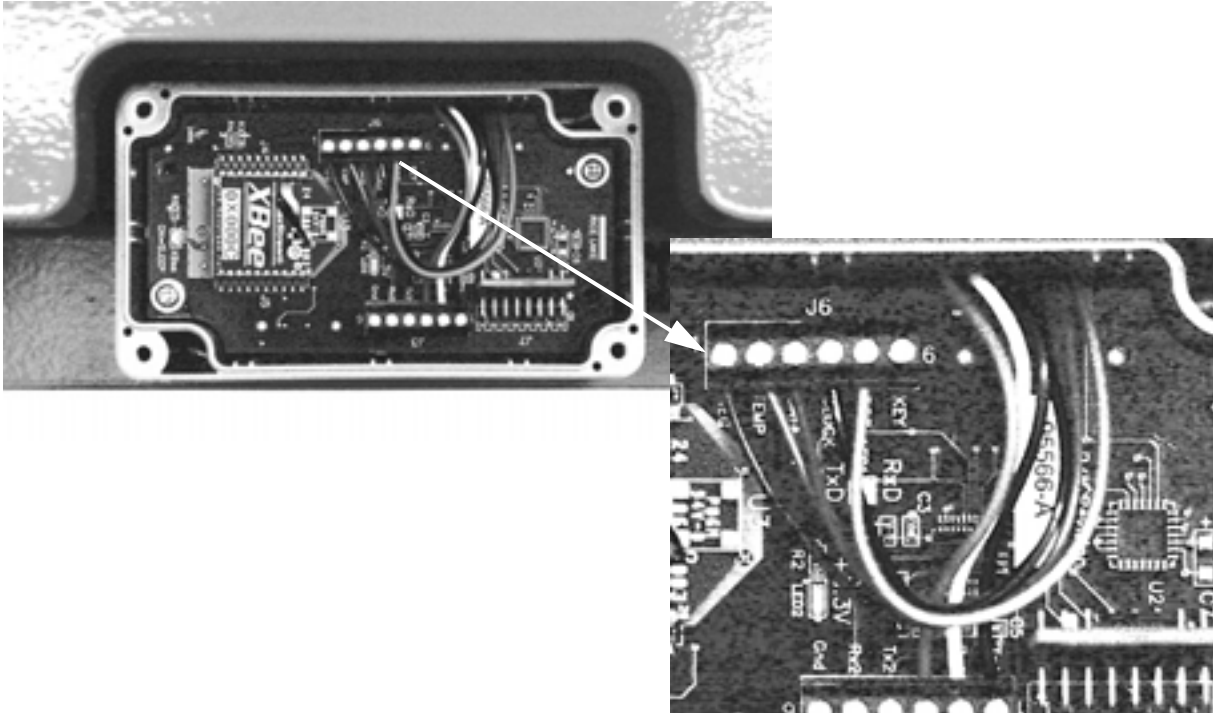

Figure 4-18. Inside of Junction Box - Top Board
The second board, or the upper board is pictured in Figure 4-18.
5. Connect wires from the bottom board as shown in Figure 4-18 and Table 4-10 connecting into J3 and J6 connectors.